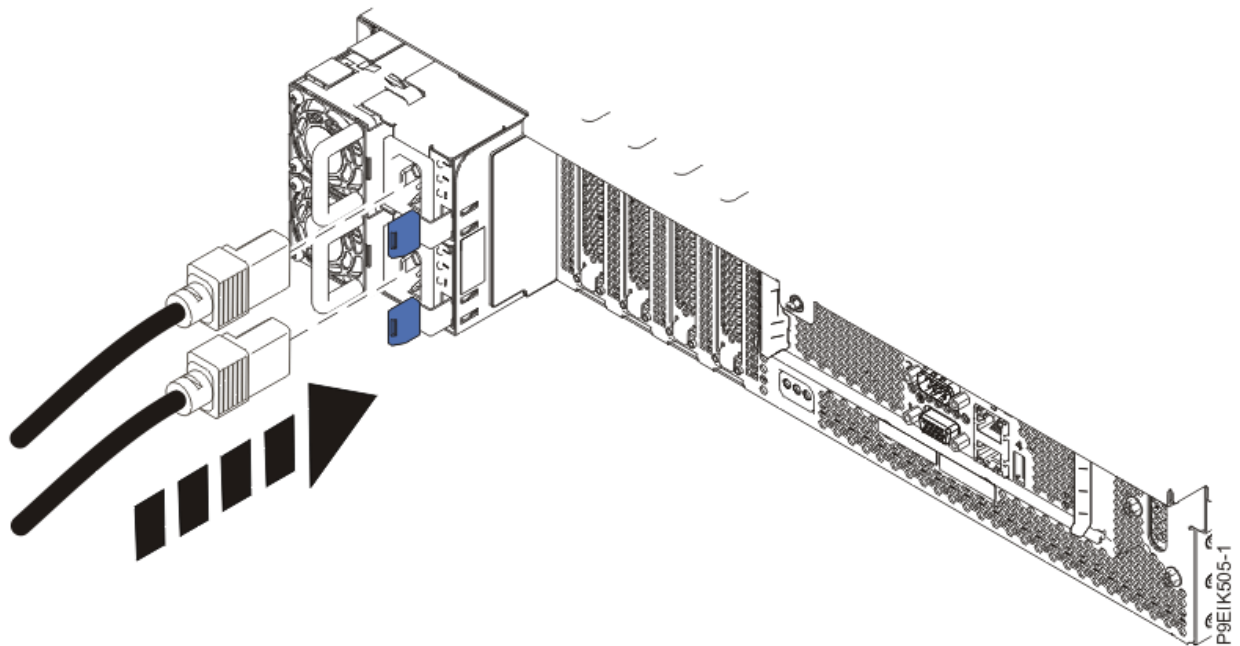

Figure 38. Connecting the power cords to the system
2. Using your labels, reconnect the power cords to the system unit as shown in Figure 38 on page 51.